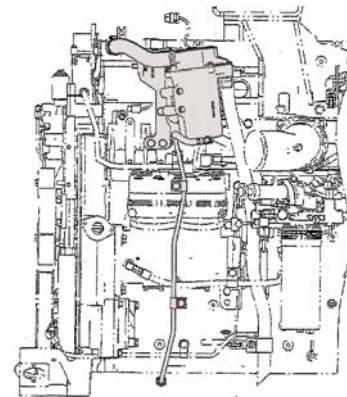

Figure 2. Location of Open Crankcase Ventilation Filter
**3.2 CATERPILLAR Open Crankcase Ventilation (OCV) Filter.** The filter for the OCV system is mounted on the fuel pump side of the engine. See Figure 2.